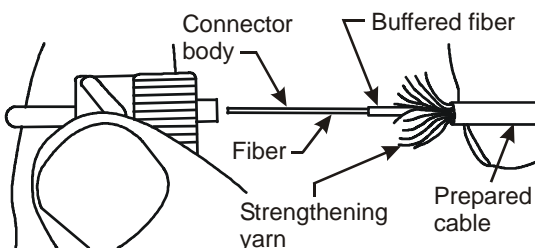

Figure 27. Insert Fiber into Connector
5. **Insert Fiber into Connector Body**—Immediately insert the fiber through the connector body, carefully feeling for the ferrule capillary. Rotate the connector body as the fiber is inserted to allow the fiber to pass through the connector body without hanging up (Figure 27).